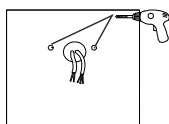

figure 8
Step 1: Drill holes on the wall as shown. (Figure 8)